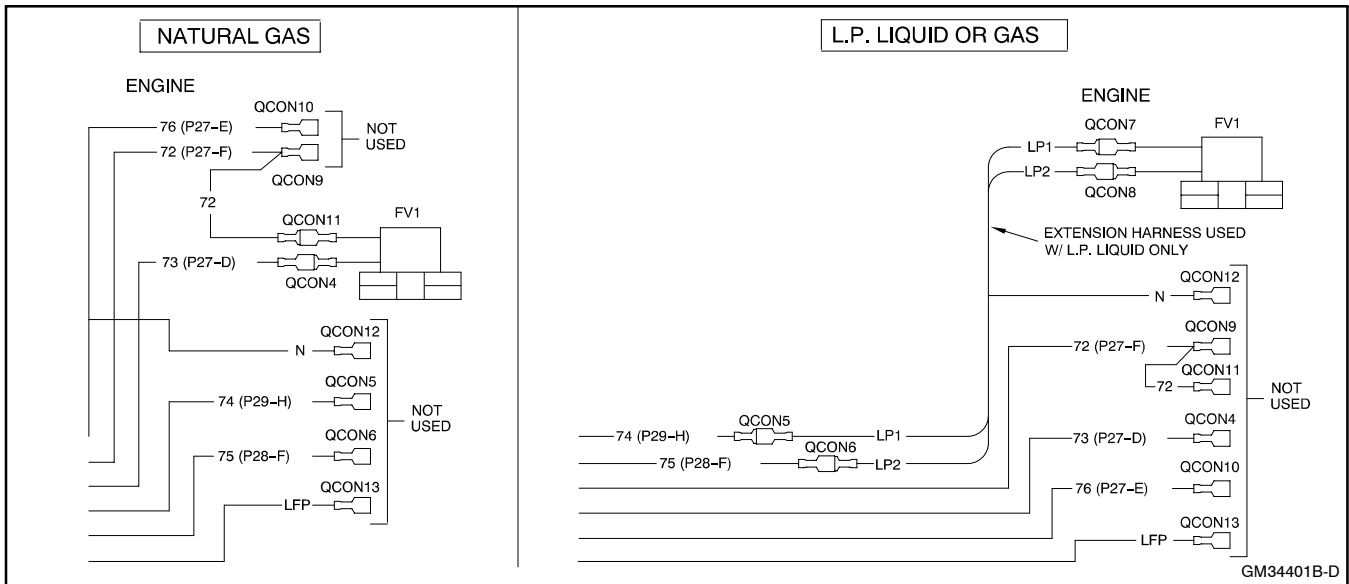

Figure 7-36 Solenoid Shutoff Valve Wiring
- Disconnect wires 72 and 73 from the solenoid shutoff valve (FV1). Tape to insulate the terminals. See Figure 7-36, Natural Gas view.
- Connect wires 74 and 75 to the solenoid shutoff valve (FV1). See Figure 7-36, LP Gas view.